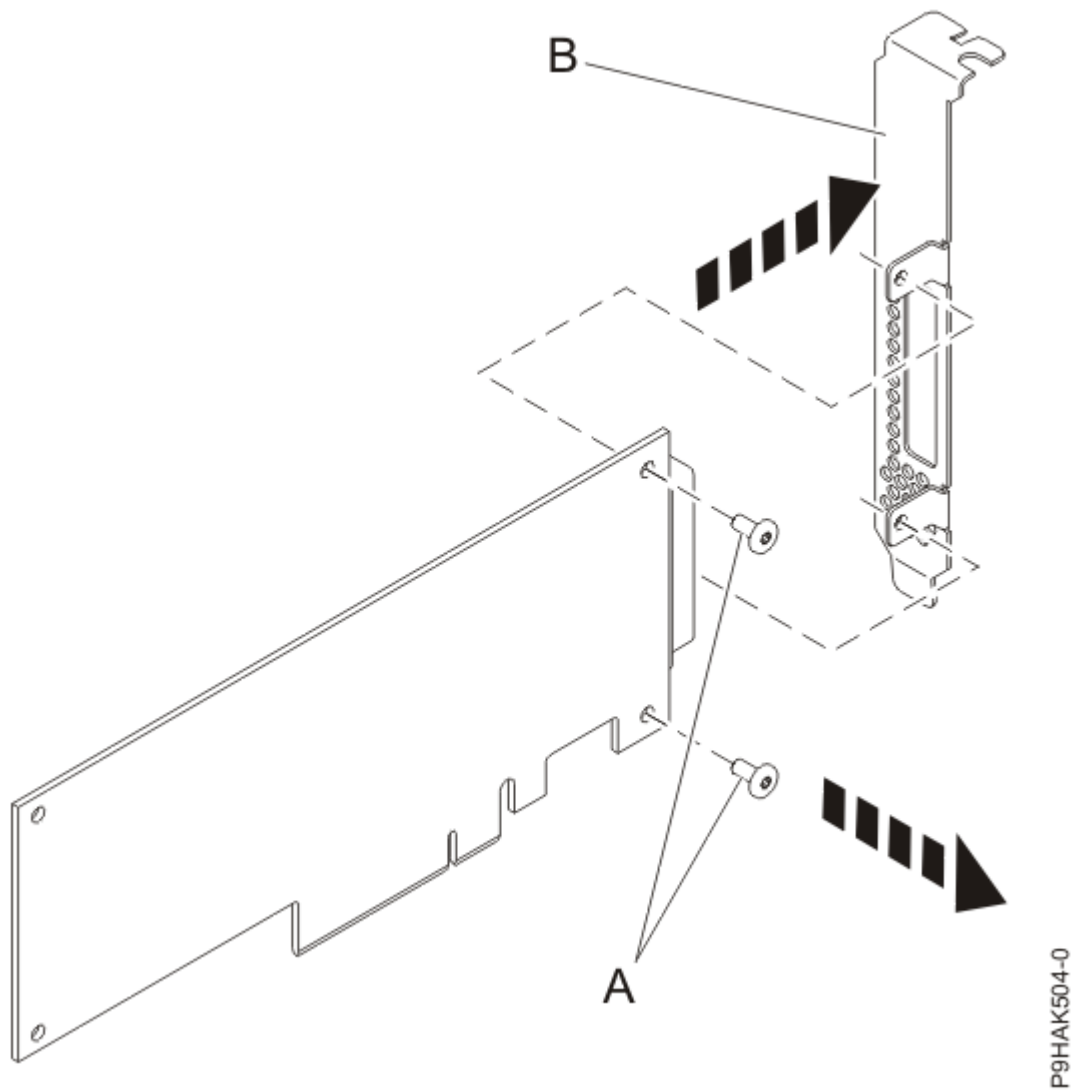

Figure 20. Removing the high-profile tailstock from a new adapter
8. Using a Phillips screwdriver, unscrew the two retaining screws **(A)** that attach the high-profile tailstock **(B)** to the new adapter, as shown in Figure 20 on page 26.